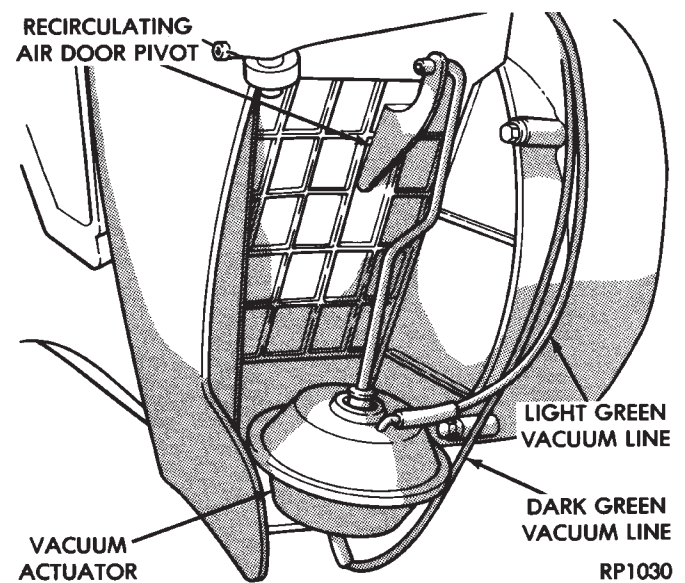

Fig. 5 Recirculating Air Door Vacuum Actuator
- (1) Disconnect the vacuum line.
- (2) Remove 2 vacuum actuator attaching nuts (Fig. 5).
- (3) Disengage drive linkage from recirculating air-door pivot.
- (4) Remove the actuator from the heater A/C housing.